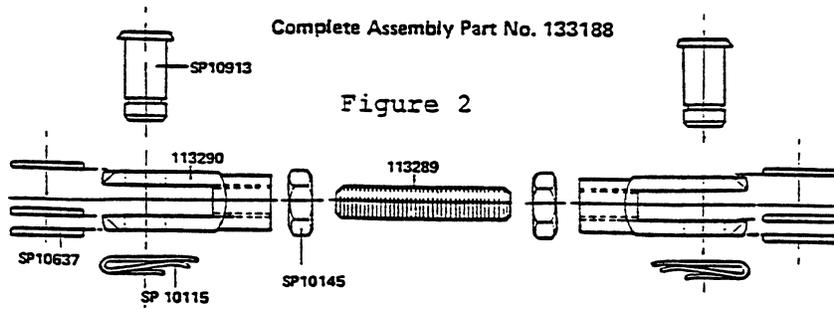
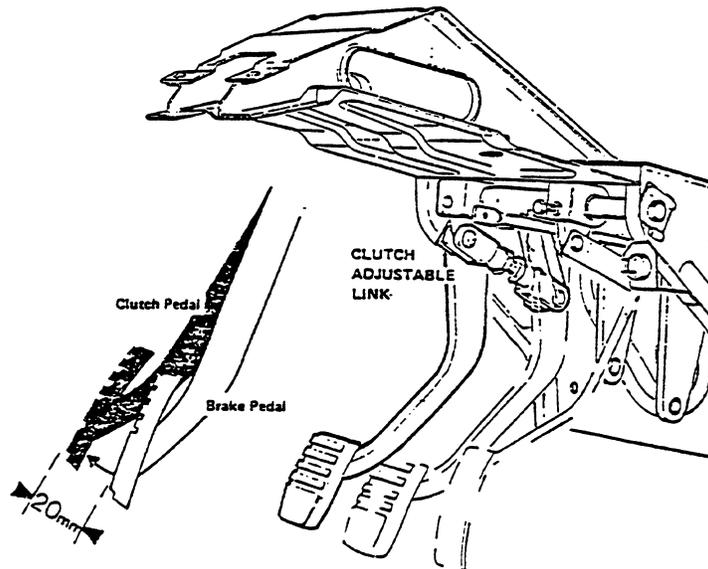

Figure 2
Figure 3
- E) Assemble the adjustable clutch link (Figure 2) (Part Number 133188). Adjust both clevis ends evenly on the threaded rod so as when the link is secured the clutch pedal is 20 mm (3/4") higher than the brake pedal (Figure 3).